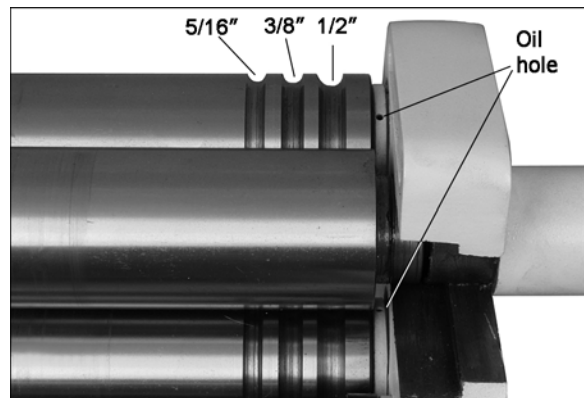

Figure 9
There are three wire grooves at the end of the pinch roll and idler roll, to accommodate a 5/16", 3/8" and 1/2" wire. See Figure 9.
2. Place a few drops of 30W oil into the holes at each end of the rolls (see Figure 9). Then operate the machine for a few seconds to distribute the oil.